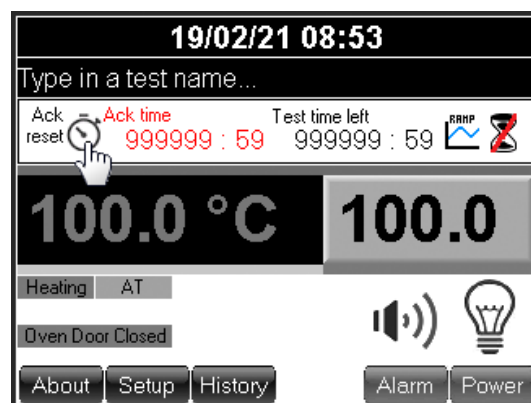

Fig 2.3.3b
1. Total test timer – next to the clock symbol. (Fig 2.3.3b)